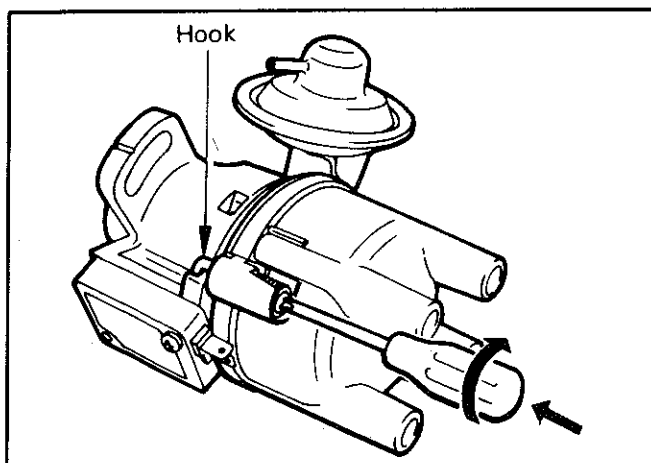

Fig. 7—Removing cap
(1) Remove the distributor cap as shown in Fig. 7, i.e. push down on the screw and turn to disengage the retaining hook.